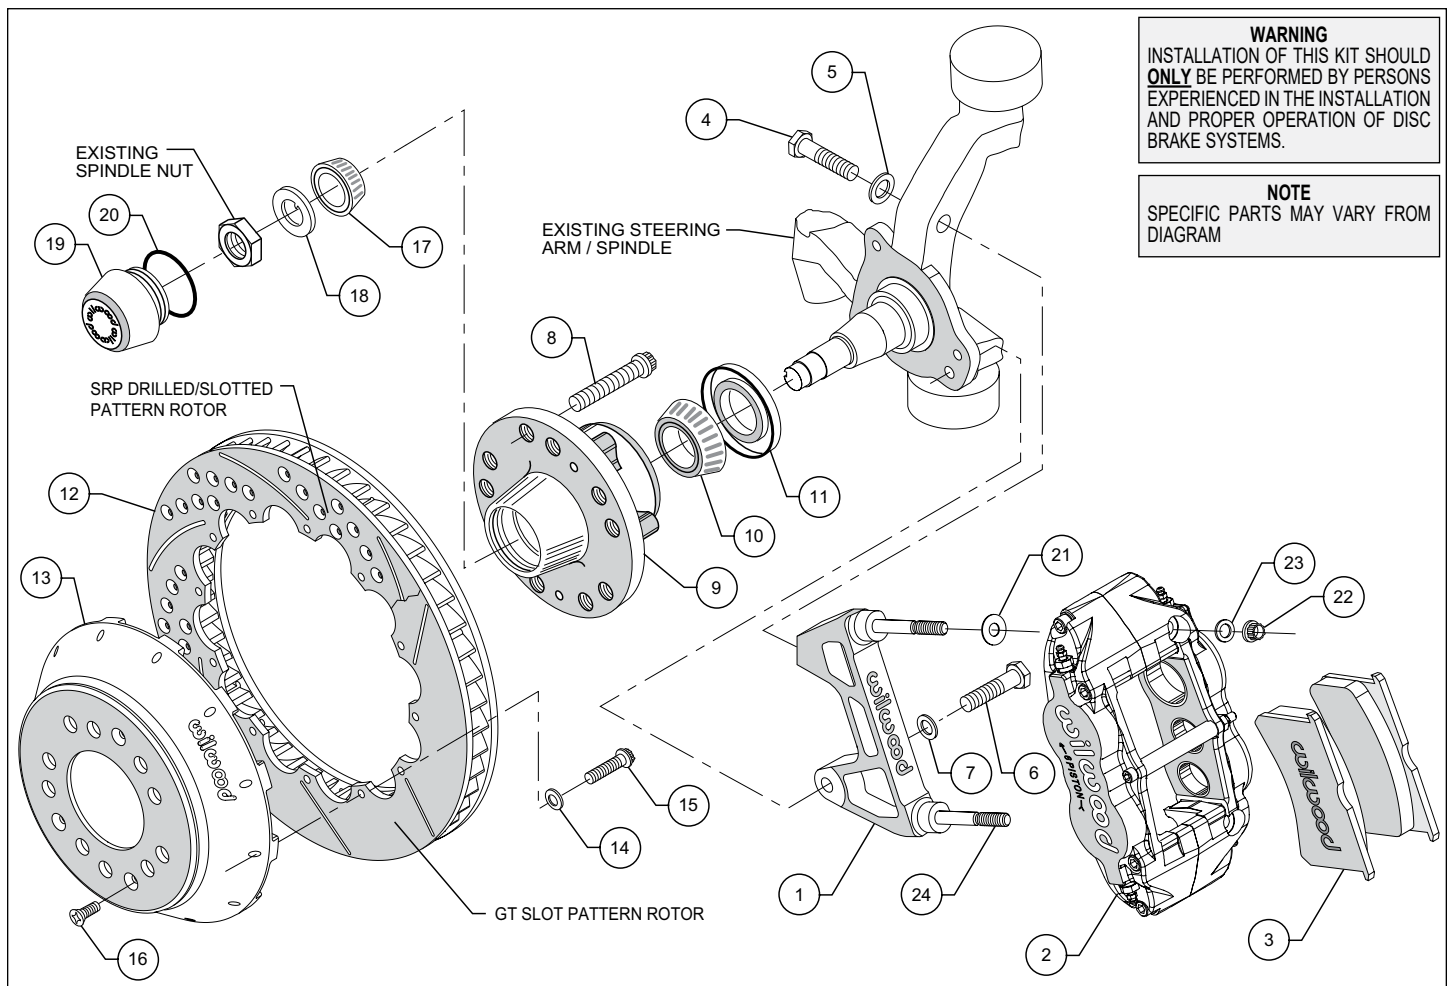

Figure 1. Typical Installation Configuration
NOTE: Numbers in parenthesis refer to the parts list and Figure 1 on the preceding pages.
•Slide the rotor/hat assembly over the studs (8) in the hub (9) taking care to align the small countersunk holes in the hat (13) with the small threaded holes in the hub (9). Install three flat head socket head screws (16) through the small holes in the hat (13) and torque to 85 in-lb. Check to be sure the hat seats squarely against the spindle.
•**NOTE:** *This kit contains distinct right and left hand calipers that must be mounted in a specific direction, as described below.* Lubricate the caliper mounting studs (24) with lightweight oil. Initially place one .035" thick shim (21) on each stud as shown in Figure 1. Mount the caliper (2) onto the bracket (1) using lock nuts (22) and washers (23), Figure 1. Ensure that the caliper is mounted so that the largest pistons are at the rotor exit end of the caliper, in relation to the direction of rotor rotation.
•Remove the caliper center bridge pad retainer bolt, nut, and tube from the caliper. Slide the brake pads (3) into place. They should install easily without interference. Check that the outside radius of the brake pad is aligned with the outside diameter radius of the rotor face. Add or subtract shims (21) between the caliper and mount bracket to gain the proper alignment. Lubricate caliper mounting studs and nuts with lightweight oil, reinstall the caliper and torque the caliper nuts (22) to 30 ft-lb. Reinstall the center bridge pad retainer tube, bolt, and locknut. The locknut should be snug without play in the bolt or tube. Be cautious not to over tighten.